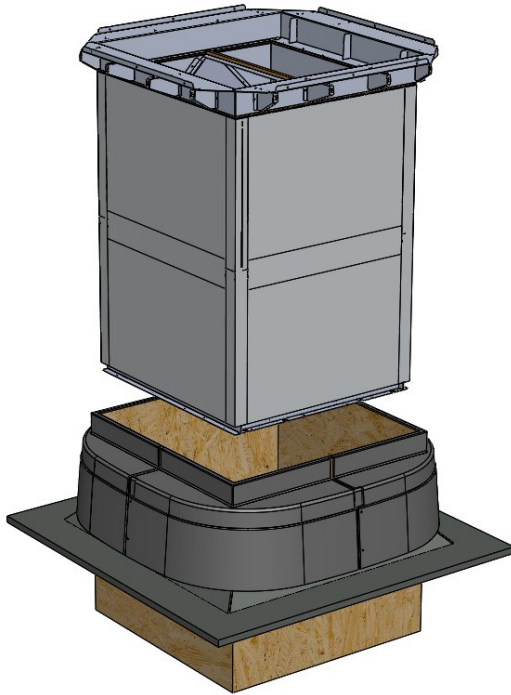

Figure 26 – Heat exchanger position.
1. Insert the heat exchanger in to the timber aperture - *see figure 26.*